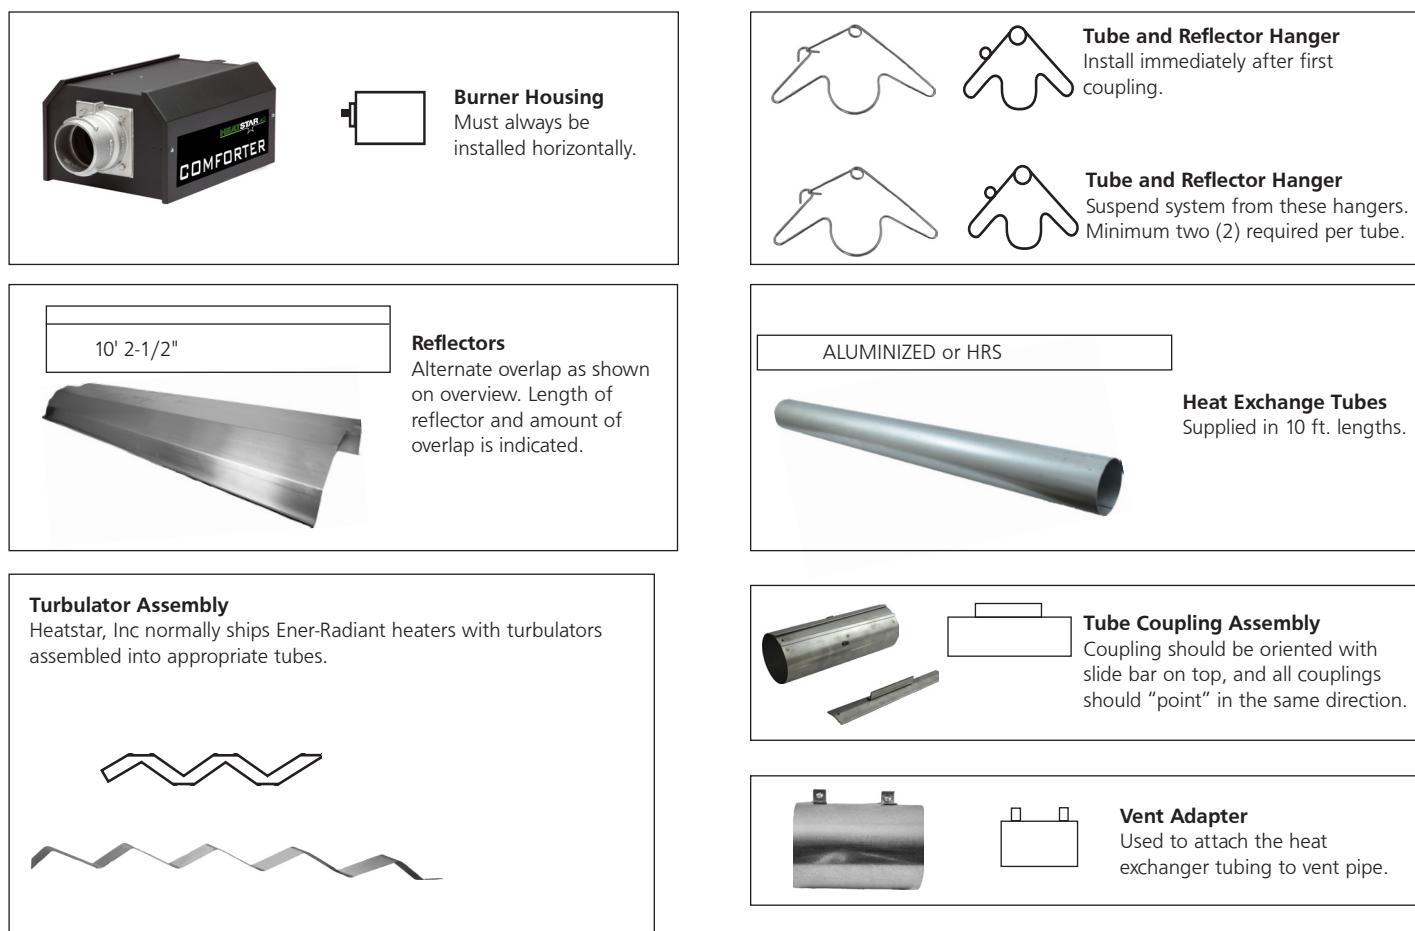

FIGURE 2A: Heatstar AG Model COMFORTER-40
- Plan location supports (see Figure 2A-G starting on page 8). Locate a support near all elbows.
Assemble the heater components as shown in Figures 2A, 2B, 2C, 2D, 2E, 2F and 2G. Optional reflector configurations are shown in Figure 1. Install appropriated suspension hardware, beam clamps, chain or rod at predetermined locations. Adjustment of chain length will provide uniform pitch.